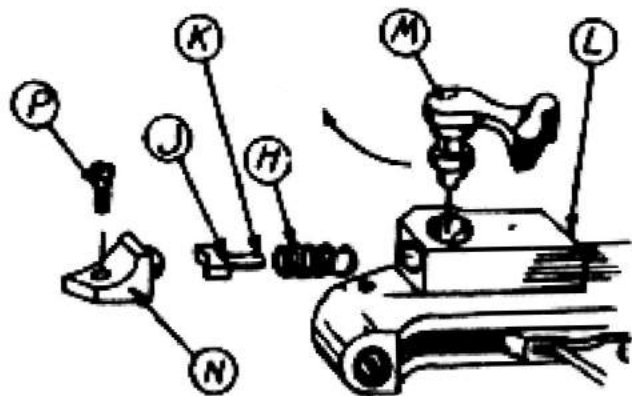

FIG. 3.
- 7 PLACE THE SAFETY LOCK SPRING (H) ON SAFETY LOCK PLUNGER (J) AND INSERT THE UNIT INTO THE HOUSING; PUSH WITH SCREWDRIVER UNTIL END (K) IS PROTRUDING FROM END OF HOUSING AT POINT (L). HOLD END (K) WITH A PAIR OF PLIERS, THEN INSERT THE SAFETY LOCK (M) AS SHOWN IN FIG. 3, AND TURN IT CLOCKWISE A HALF TURN. PLACE THE SAFETY LOCK HOLDER (N) INTO POSITION AND FASTEN IT WITH SAFETY LOCK HOLDER SCREW (P).